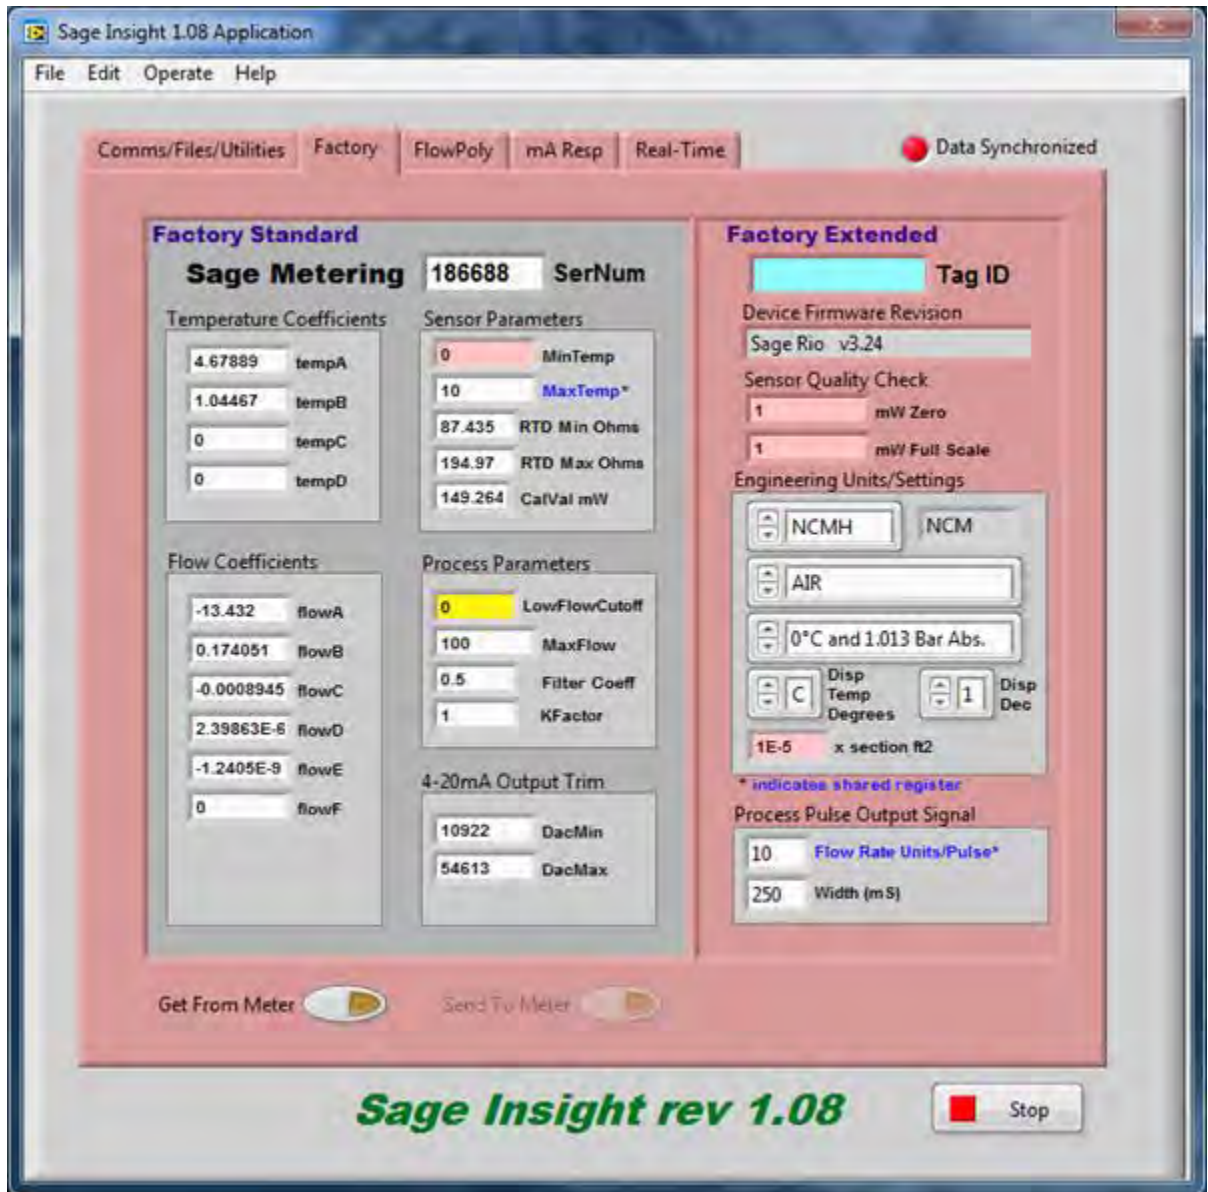

Figure 9
6. In Figure 9, notice the section labeled Engineering Units/Settings. While not all parts are highlighted in pink, it is important to verify the information and when required, make the appropriate changes to ensure the information is correct since these are the default settings and may not reflect how your device is configured. The last item you may be required to enter is the “x section ft2.” To change this value, you need the Factory level